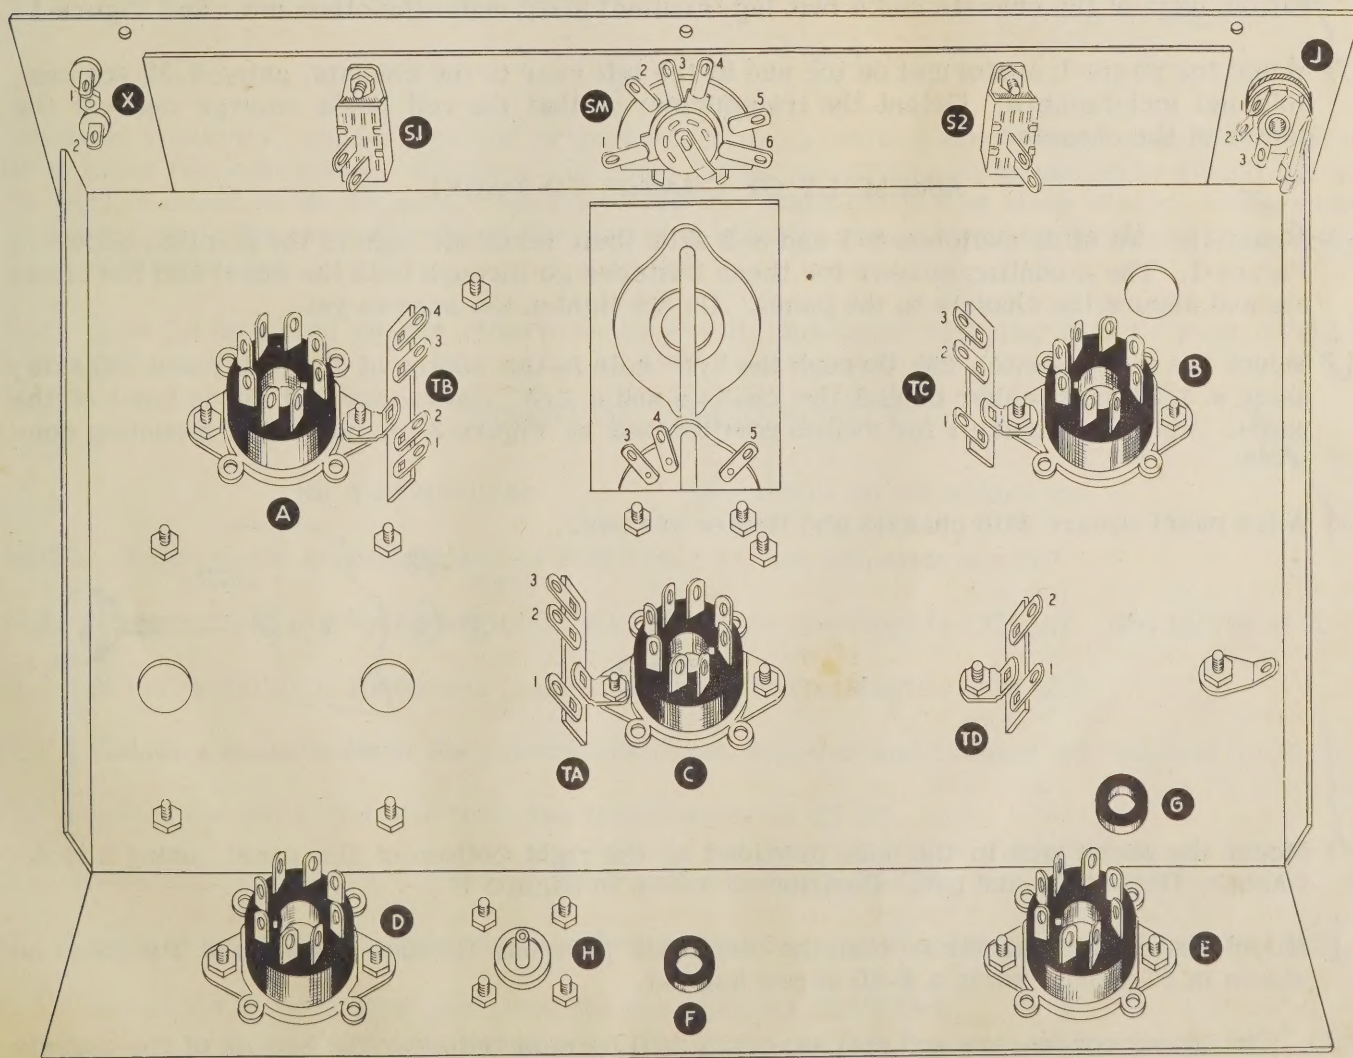

Fig. 1
4. In assembling the kit, use lockwashers under all nuts unless a solder lug is used. Tube sockets are mounted with the metal flange inside the chassis. All screws have their heads on top or outside of the chassis. This construction may be noted by referring to Figure 1. Unless otherwise stated, 6-32 screws, lockwashers and nuts are used in mounting of parts.
- (✓) Mount an octal socket in hole B with the keyway toward the center of the chassis. At the same time, mount a three-lug terminal strip under the chassis and a solder lug on top of the chassis, using the mounting screw nearest the center of the chassis as shown in Figures 1 and 2.
- (✓) Mount an octal socket in hole C with the keyway toward the right side of the chassis when viewed from the rear and a three-lug terminal strip mounted on the left hand mounting screw. Refer to Figure 1.
- (✓) Mount two octal sockets in holes D and E with their keyways as shown in Figure 1.
- (✓) Mount the filter choke on top of the chassis with the leads over the grommet G using the two mounting holes at the right rear of the chassis. Place a solder lug under the nut nearest the edge of the chassis and a two-lug terminal strip under the other nut. See Figure 1.
- (✓) Mount the two slide switches S-1 and S-2 with their terminal lugs in the position shown in Figure 1. The mounting screws for these switches go through both the panel and the chassis and secure the chassis to the panel. Do not tighten the screws yet.
- (✓) Mount the meter switch SM through the 3/8" hole in the center of the panel and chassis, using a 3/8" lockwasher behind the chassis and a 3/8" flatwasher and nut in front of the panel. Refer to Figure 1 for switch position and to Figure 3 for method of mounting controls.
- (✓) Mount the phone jack in the hole provided at the right bottom of the panel, using a lockwasher, flatwasher and nut. Position as shown in Figure 1.
- (✓) Mount the crystal holder so that the terminals protrude through the back of the panel as shown in Figure 1, using a 4-40 screw and nut.
(✓) Run the wire around the outside edge of the chassis as shown in Pictorial 1 and connect the other end to SM1 (NS). Refer to Figure 1 or Pictorial 1 for SM1 connection.